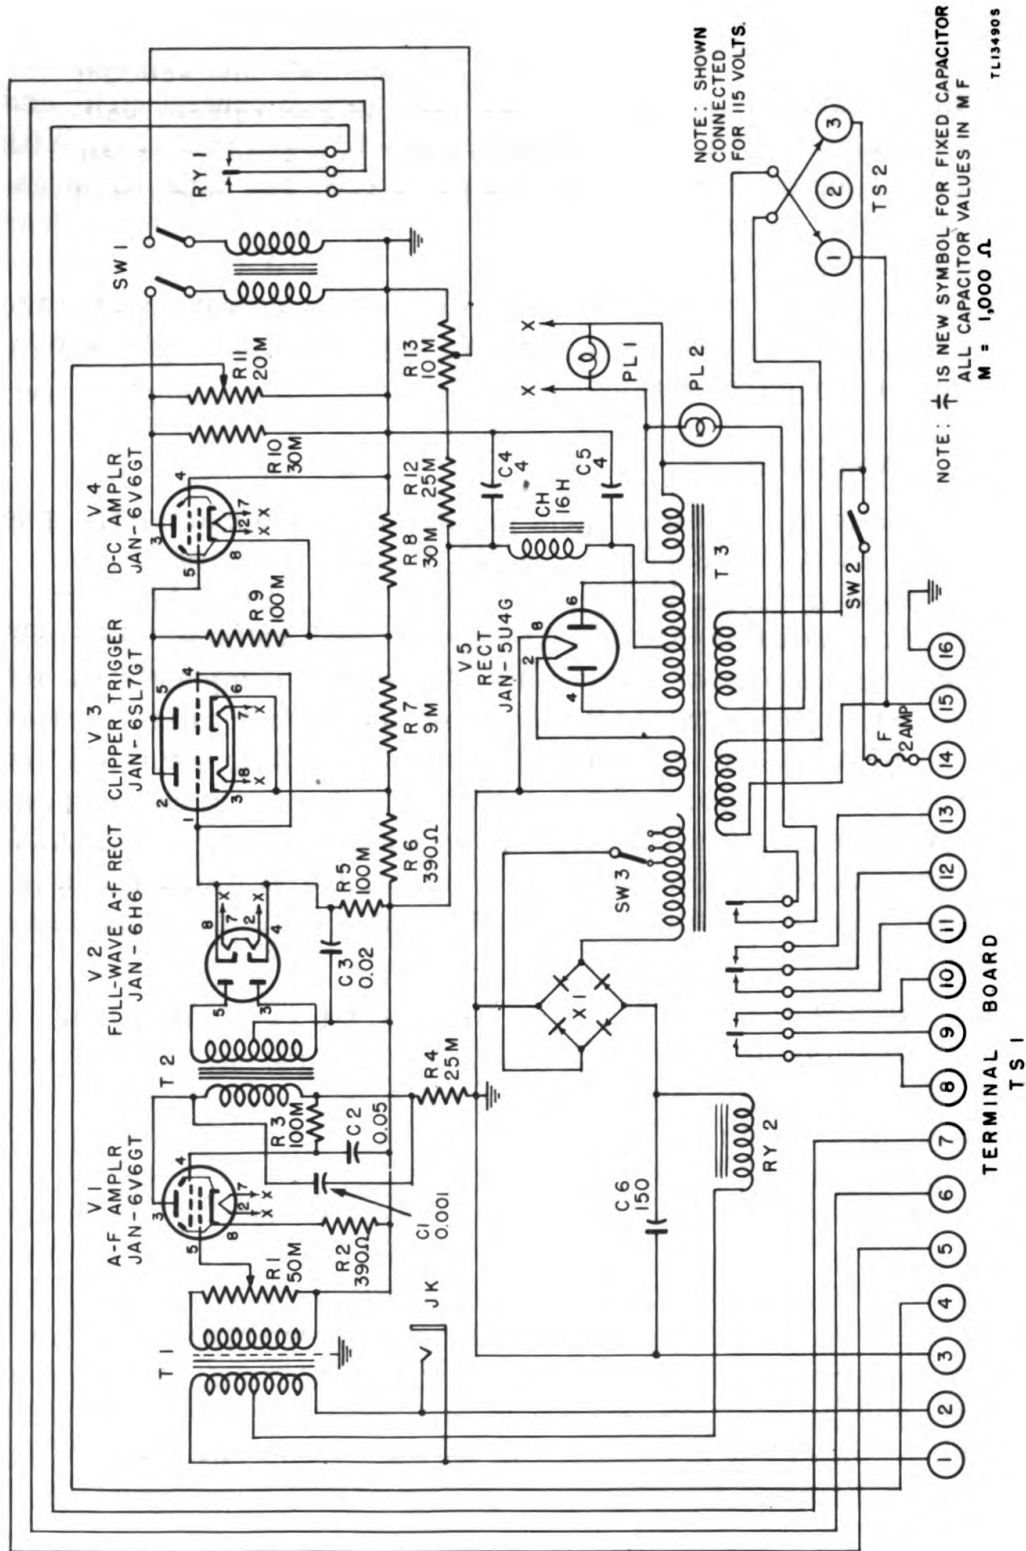

Figure 13. Keyer KY-7/FRT, schematic diagram.
Legend for figure 13
- (2) Complete schematic diagram (fig. 13).